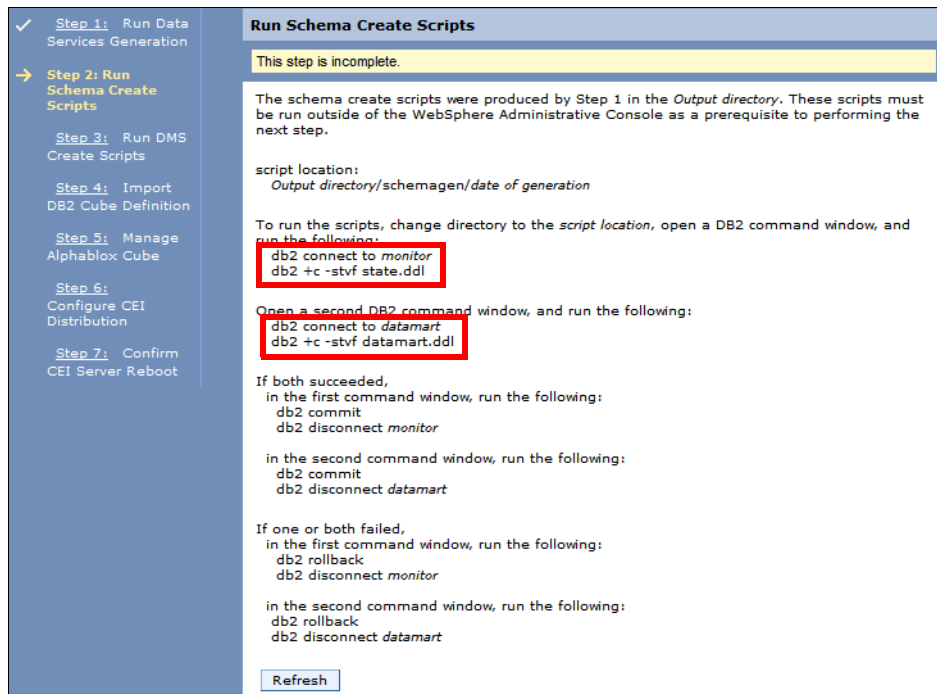

Figure 14-10 Monitor life cycle: Step 2
Step 2 guides us through the process of running the schema create scripts in a DB2 command window outside of the administrative console. The setup wizard provides details of the commands that have to be run (Figure 14-10).